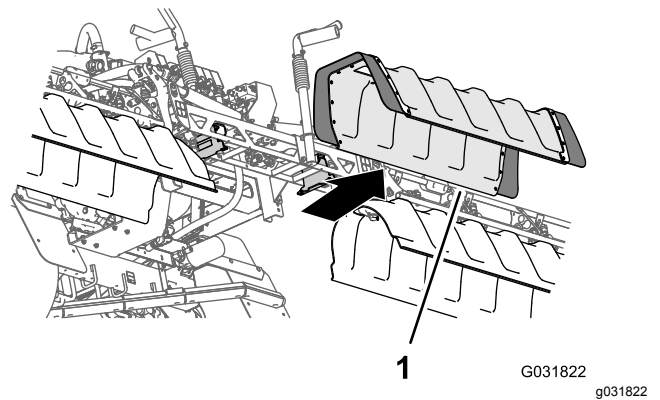

Figure 40
2. Remove the center section cover from the machine (Figure 40).